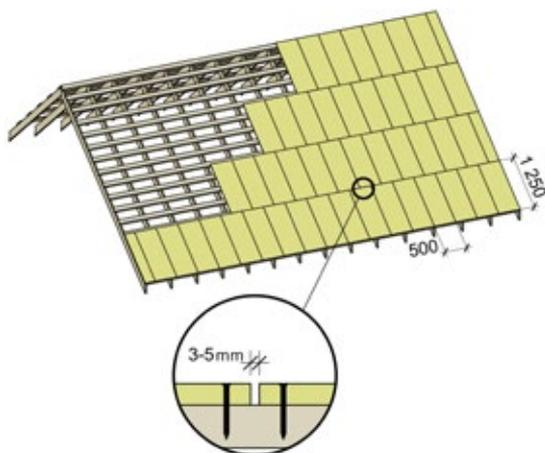

Fig. 5. Laying OSB-3 boards or FSF plywood solid decking over the battens.
3.1.3 The boards must be cut and staggered as shown in Fig. 5.